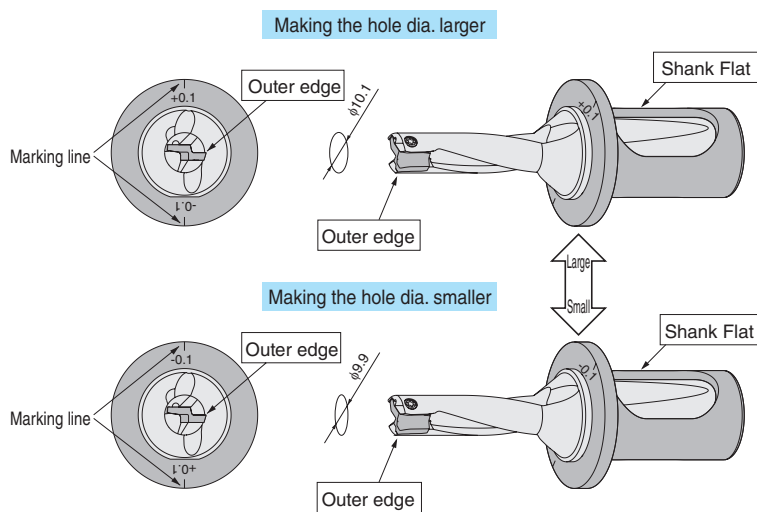

Fig.1 Diameter Adjustment Method (e.g.) φ10 Drill
- (1) Set the outer edge horizontally with 90° to making line on the sleeve. (Fig.1)
- (2) When making the hole diameter larger, align the +0.1 mark on the sleeve with the flat on the drill shank.
To adjust to smaller diameter, align the -0.1 mark on the sleeve with the flat on the drill shank. (Fig.1)